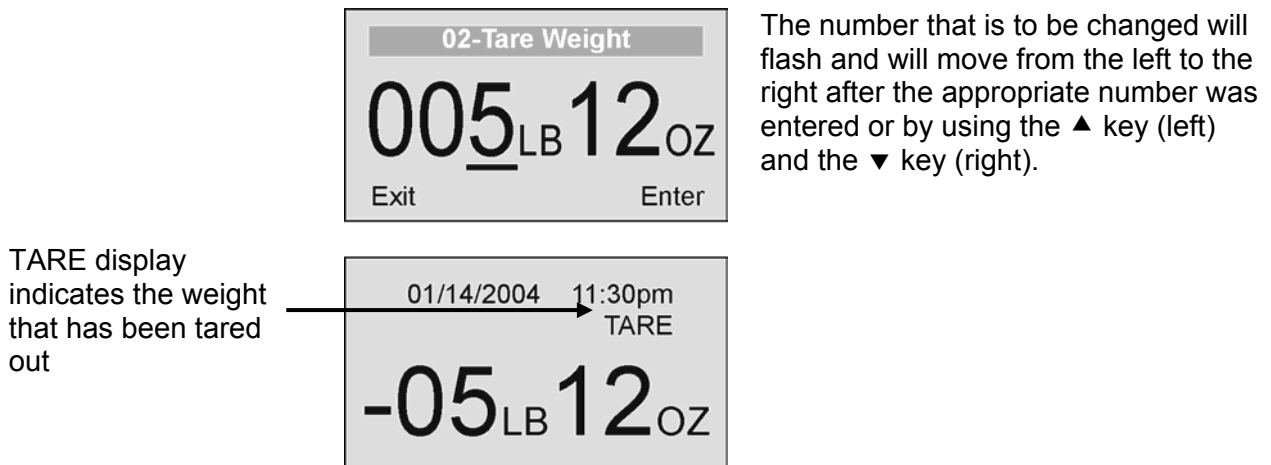

Figure 10. Tare Weight
The user can set a tare weight by pressing the TARE button (9) while there is a weight on the scale platform. The display will come to zero and TARE will be displayed to indicate there is a tare value in the memory (as displayed in Figure 10 above).